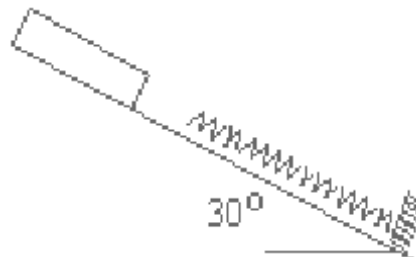

Figure 2b
- (b) A block of mass 5Kg resting on a 30° inclined plane is released. The block after travelling a distance of 0.5m along the inclined plane hits a spring of stiffness 15N/cm. Find the maximum compression of spring. Assume coefficient of friction between the block and the inclined plane is 0.2. As shown in the Figure 2b. [8+8]